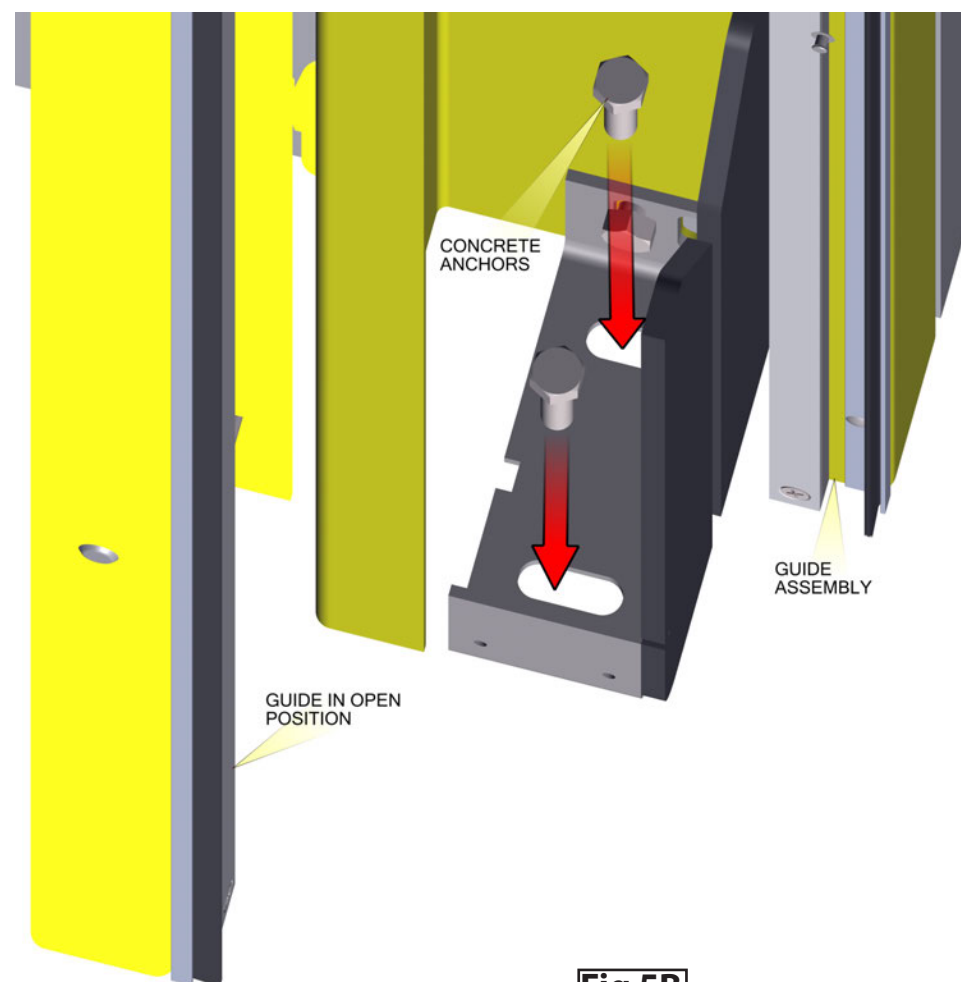

Fig 5B
- Install the concrete anchors through the floor bracket, securing the guides to the floor. See FIG 5B